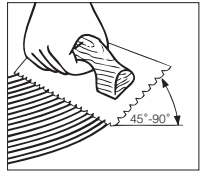

Figure 4
- Hold the trowel at a minimum 45° angle (Figure 4) firmly against the subfloor.